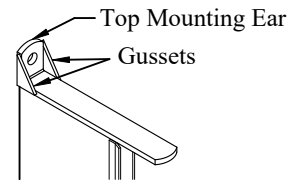
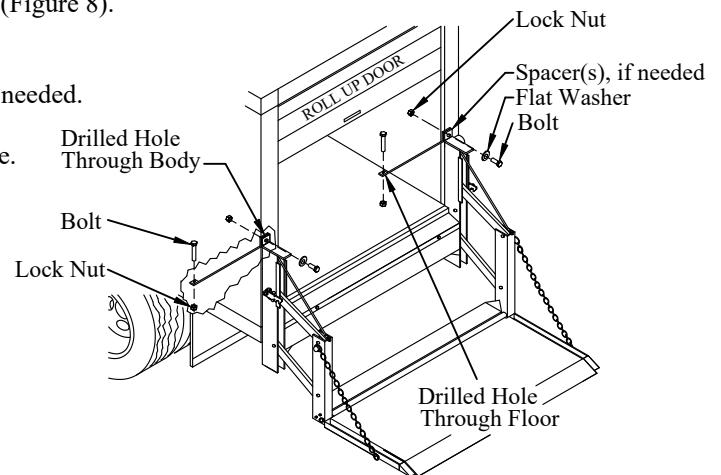

Figure 7: Top mounting ear with gussts.
Figure 8: Van body top mounting ear.
- 2. Drill** 1/2" holes through the van body using the liftgate mounting ears as a guide (Figure 8).
- 3. Insert** 1/2" bolts with flat washers through the mounting ears and through the truck (Figure 8). Original Series with gussets on the top mounting ears do not need the flat washers (Figure 7).
- 4. Attach** the 1/4" x 1-1/4" x 39" straps on the back side of the bolts with 1/2" lock nuts. Position the straps inside the body so they go down to the floor (Figure 8).
- 7. Bolt** the straps to the truck floor using the supplied 1/2" bolts and lock nuts (Figure 8).
Original Series with gussets on the top mounting ears do not need the flat washers (Figure 7).